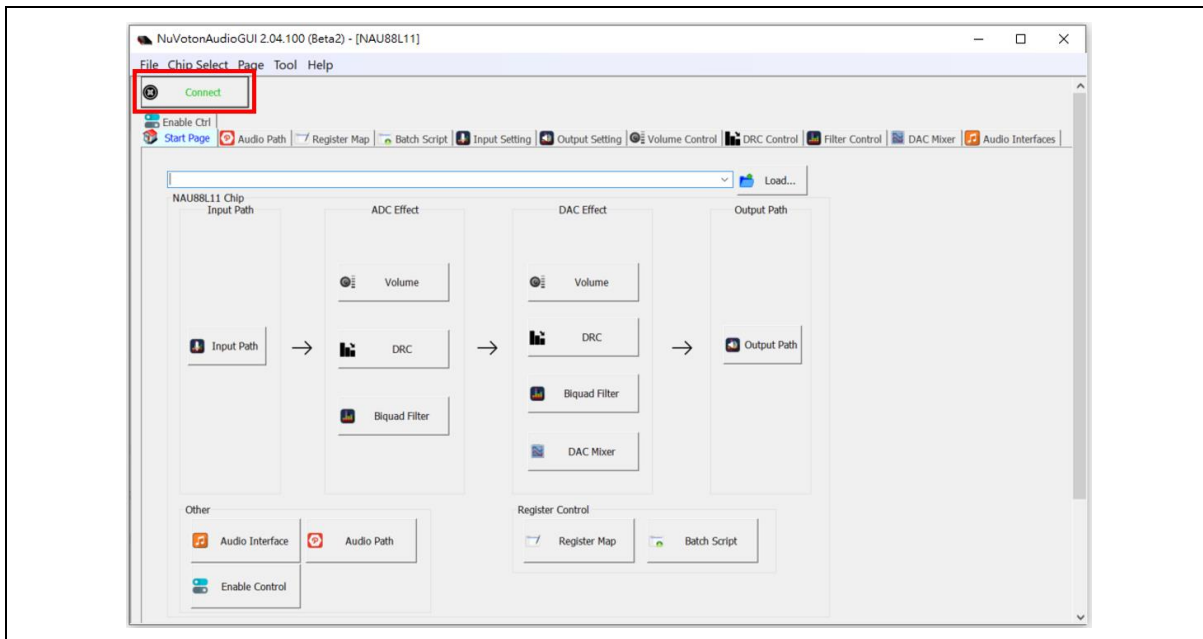

Figure 3-6 NuvotonAudioGUI Operating Step (3)
- NuvotonAudioGUI will automatically read connection status. If the hardware and software are properly configured, a green [Connect] will appear on the upper left corner of the NuvotonAudioGUI window, as shown in Figure 3-6. Then users can issue I²C commands through NuvotonAudioGUI to control NL-NAU88L11.